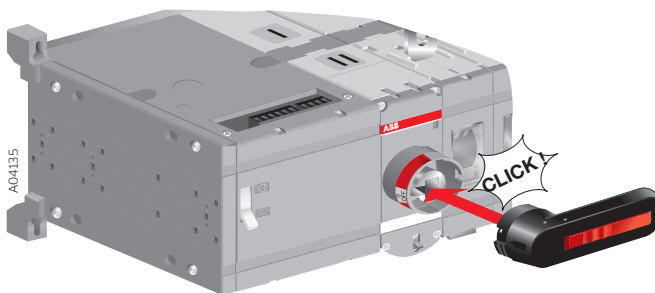

Figure 8.6 Attaching the handle
2. Attach the handle by pressing it to the switch panel until it clicks into place. You can attach the handle in all positions (I, 0, II), see Figure 8.6.